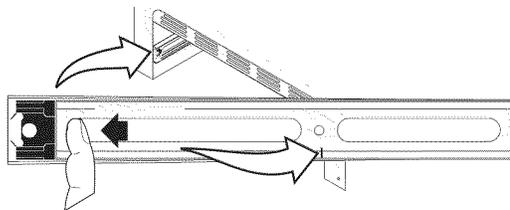

Figure 41: Warmer drawer glides
1. Pull the bearing glides to the front of the outer compartment glide channels until they snap into place (Figure 41).